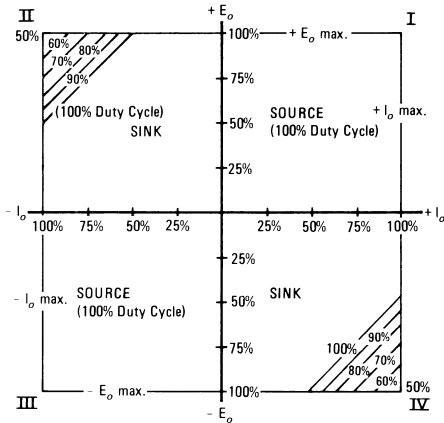

FIGURE 1
- Source and sink 100% of their current rating. See Figure 1.